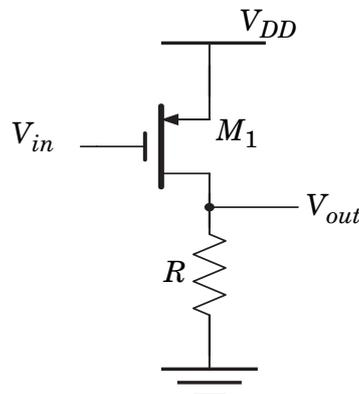

Figure 1.1 A simple gain stage.
- a) Sketch the output voltage as a function of the input voltage for the circuit shown in Figure 1.1. The input voltage is in the interval between gnd and V_{DD} . (4p)